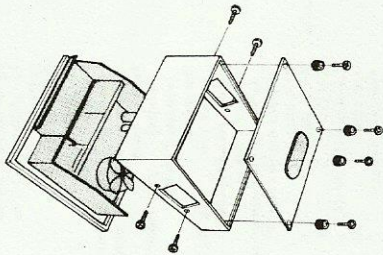

Fig. 1
2. Remove the wooden case by loosening the four large screws on both sides of the case. (Fig. 1)